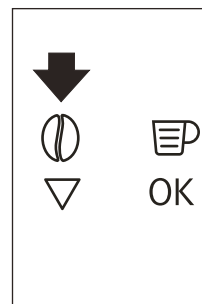

Fig. 15
- ▶ The appliance is preset to make coffee with a normal taste. You can also choose coffee with an extramild, mild, standard, strong or extra-strong taste. There is also a pre-ground coffee option. To choose the required taste, press more times the icon ☉ (B4) (Fig. 15). The required coffee taste is displayed.